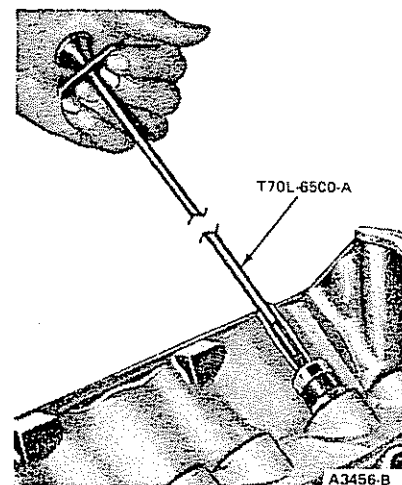

FIG. 46 Removing Valve Lifter
- Using Tool T70L-6500-A shown in Figure 46, remove the valve lifters and place them in a rack so that they can be installed in their original bores.